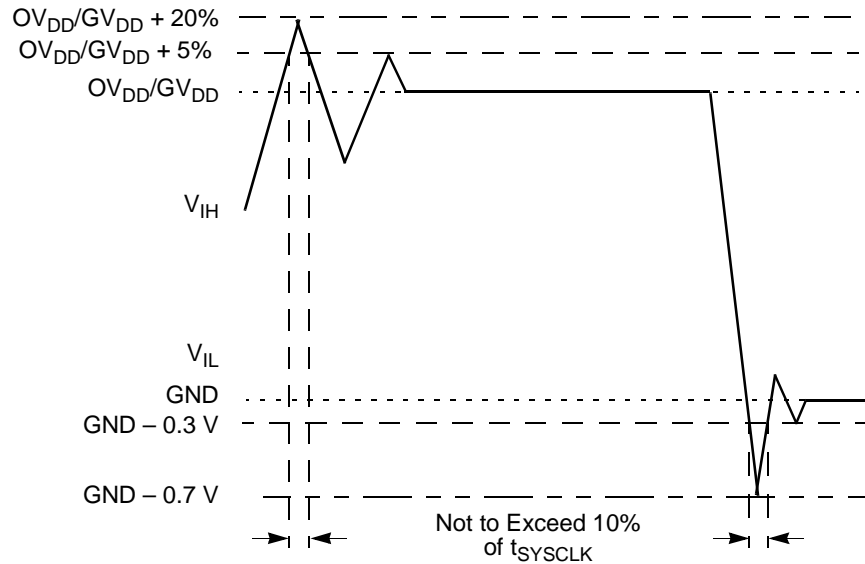

Figure 2. Overshoot/Undershoot Voltage
5. V_{in} may overshoot/undershoot to a voltage and for a maximum duration as shown in Figure 2.
Figure 2 shows the overshoot and undershoot voltage on the MPC7451.